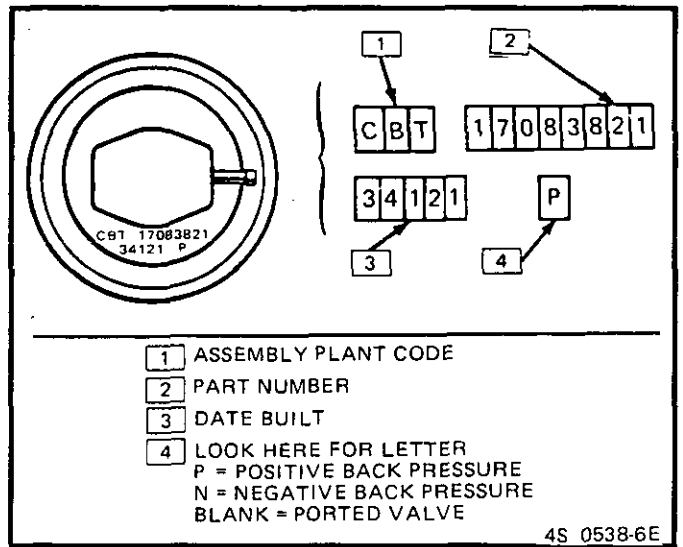

Figure C7-4 - EGR Valve Identification
EGR VALVE IDENTIFICATION FIGURE C7-4
2. EGR valve vacuum tube at valve. (Figure C7-4)